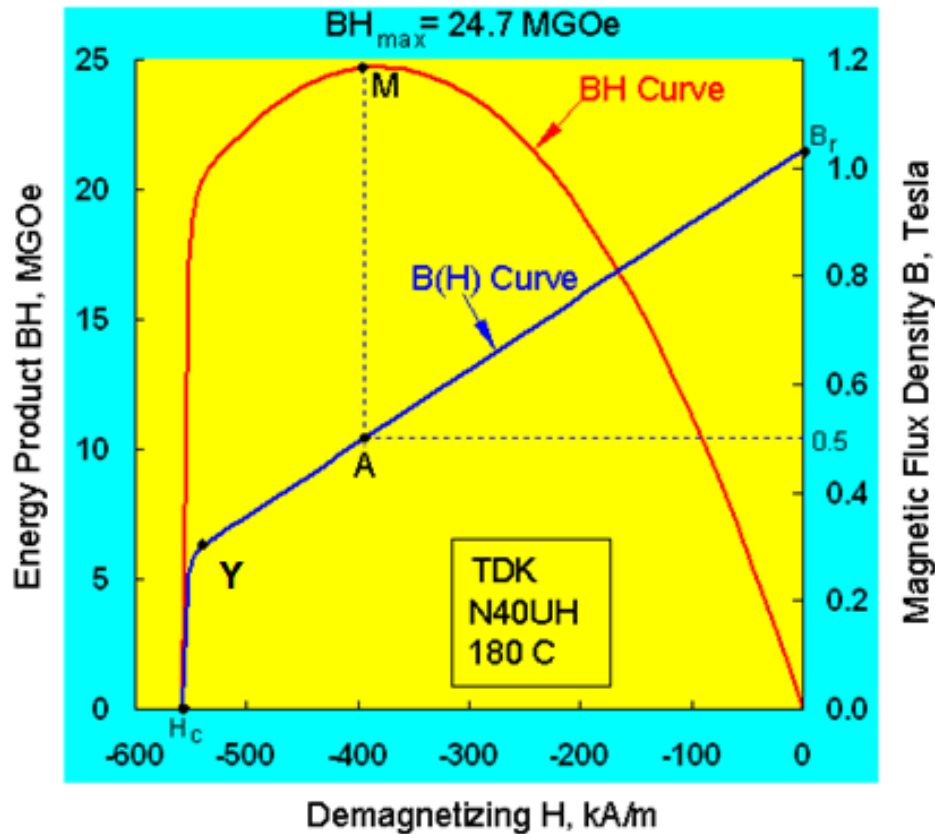

Figure 8. Energy Product Curve $BH(H)$ indicates the point at which the magnet stores maximum energy. Operating it at the BH_{max} point minimizes the cost.
The BH can also be plotted against H. Fig. 8 shows the $BH(H)$ curve for the N40UH magnet from TDK at 180° C. At point M the magnet attains maximum energy product. It corresponds to P on B(H) curve. This BH_{max} reduces with the temperature. An N40UH magnet at room temperature has $BH_{max} = 40$ MGOe. It also shows that the same magnet at 180C reduces to $BH_{max} = 24.7$ MGOe. Thus the magnet degrades energy-wise by ~40% when the temperature increases from 25 C to 180 C.